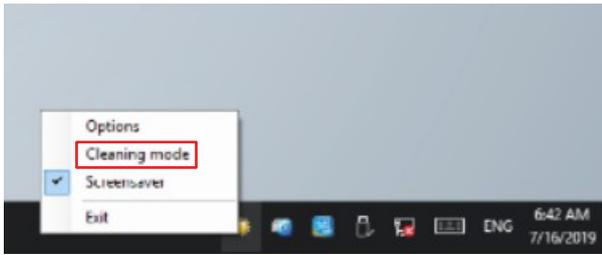

Fig. 18: CP69xx_Select Cleaning Mode
3. Select the "Cleaning Mode" (see Fig. 18).